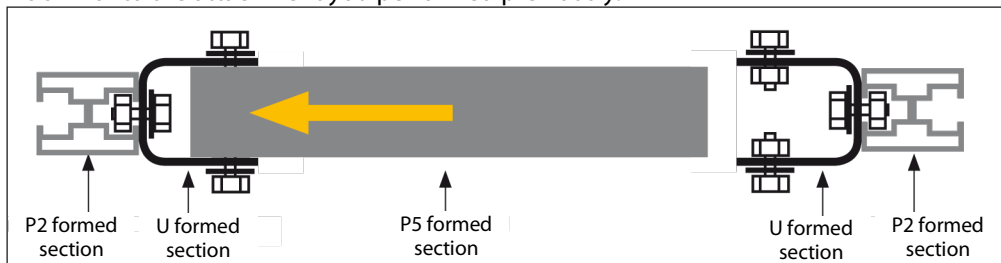

Figure 10
- Attach the P5 type formed section to one of the U formed sections (see figure 10 below) - the attachment is similar to the attachment you performed previously.